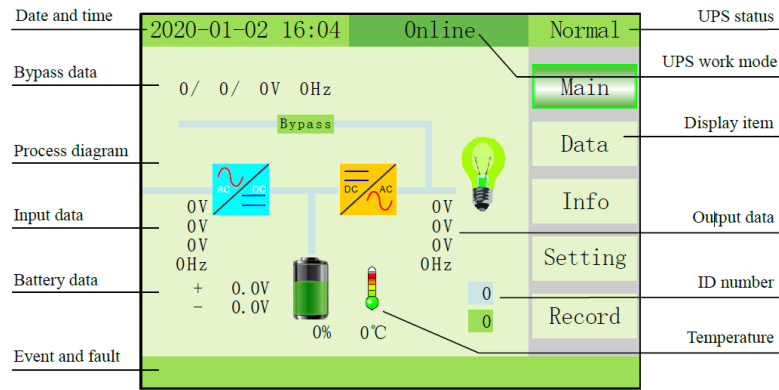

Fig. 3-7 Main interface
- 1) **MAIN**: The main interface below comes out when the power is connected or the system is cold start (Fig. 3-7). Shows UPS status graph.